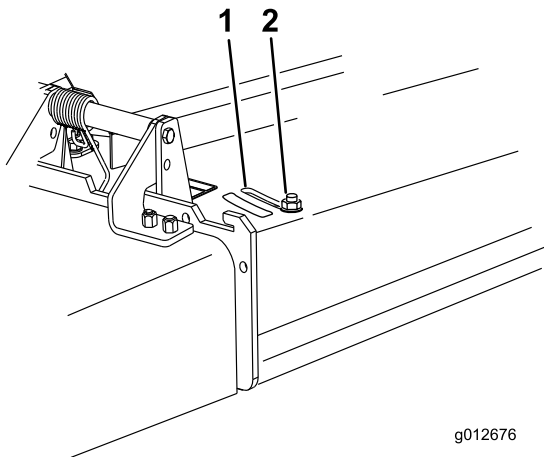

Figure 15
3. To adjust the baffle, loosen the nut (Figure 15).